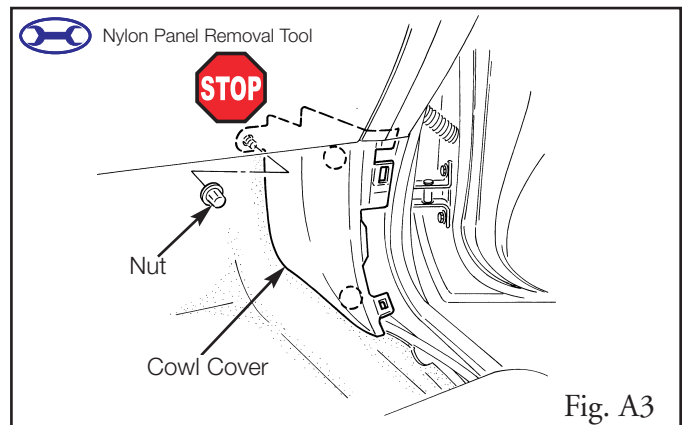

Fig. A3
3. Remove the passenger's cowl cover. (Fig. A3)